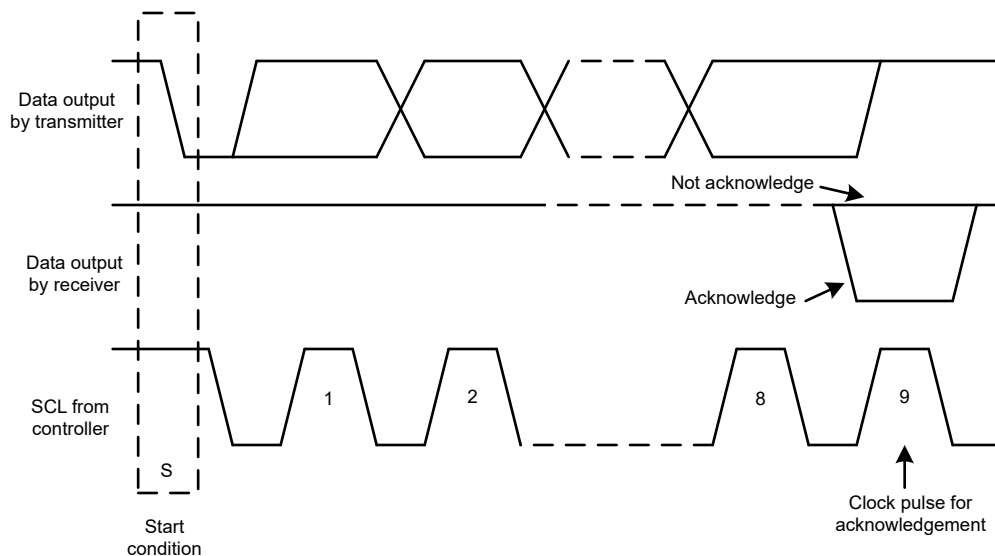
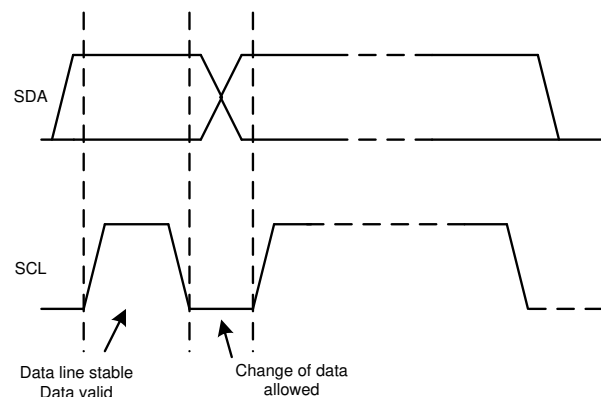

Figure 7-14. Acknowledge and Not Acknowledge on the I²C Bus
Figure 7-16. Bit Transfer on the I²C Bus
Other than specific timing signals, the I²C interface works with serial bytes. At the end of each byte, a ninth clock cycle generates and detects an acknowledge signal. An acknowledge is when the SDA line is pulled low during the high period of the ninth clock cycle. A not-acknowledge is when the SDA line is left high during the high period of the ninth clock cycle, as shown in Figure 7-14.
2. The controller then generates the SCL pulses, and transmits the 7-bit address and the read/write direction bit ($R/\overline{W}$) on the SDA line. During all transmissions, the controller makes sure that data are valid. A valid data condition requires the SDA line to be stable during the entire high period of the clock pulse, as shown in Figure 7-16. All devices recognize the address sent by the controller and compare the address to the respective internal fixed address. Only the target device with a matching address generates an acknowledge by pulling the SDA line low during the entire high period of the 9th SCL cycle, as shown in Figure 7-14. When the controller detects this acknowledge, the communication link with a target has been established.